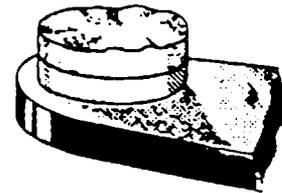

Figure 74-2. Contact Points
6. Examine the contact points for excessive wear or burning (see figure 74-2 for visual reference).
Desired contact surfaces have a dull gray, sand-blasted (almost rough) or frosted appearance, over the area where electrical contact is made. This means that points are worn in and mated to each other, thereby providing the best possible electrical contact and highest efficiency of performance. Minor irregularities or roughness of point surfaces are not harmful (refer to figure 74-2, center). Neither are small pits or mounds, if not too pronounced. If there is a possibility of the pit becoming deep enough to penetrate pad (refer to figure 74-2, right), reject contact assembly.